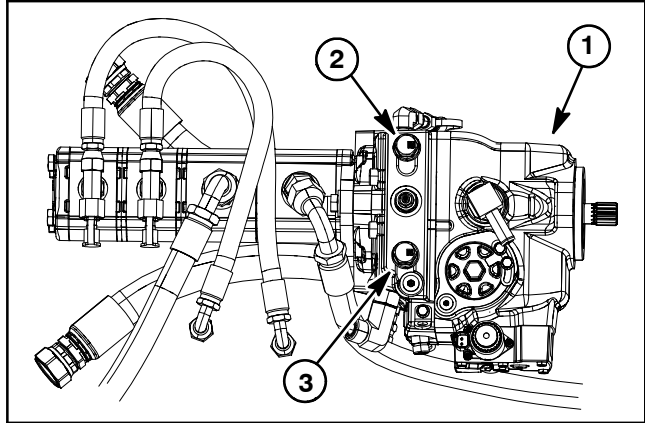

Figure 2
If it becomes necessary to tow (or push) the machine, tow (or push) in a **forward direction only** and at a speed **below 3 mph (5 kph)**. The piston (traction) pump relief valves (both forward and reverse) need to be loosened three (3) revolutions to allow the machine to be moved (Fig. 2). To prevent leakage from relief valves, do not loosen them more than three (3) revolutions. Refer to your Operator's Manual for additional towing instructions.
5. If a torque wrench is not available or if space at the swivel nut prevents use of a torque wrench, an alternate method of assembly is the Flats From Wrench Resistance (F.F.W.R.) method (Fig. 2).